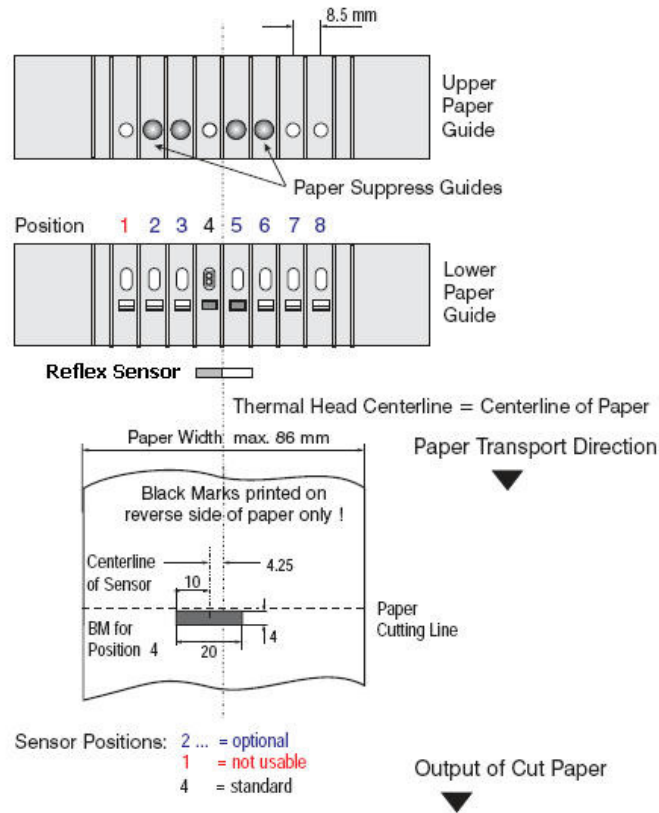

Figure 8
The Black Mark sensor (which also functions as a “paper present” sensor) on the XPM 80™ printers can be located in numerous positions during manufacturing. Figure 8 shows where the black marks should be located in order to be detected when a reflex sensor is used. The default (standard) sensor positions are so marked.
The XPM 80™ printer is designed to allow for numerous Paper Entrance/Black Mark sensor locations during manufacturing. (The location of this sensor cannot be changed once the printer is built.) Also, two different sensor types can be used. The most common is the reflex or reflective sensor, where the light source and detector are located on a single chip. Basically, the light strikes the white paper surface and reflects back into the sensor. If enough light reflects to activate the sensor, the printer reports that paper is present. If there is not enough light reflected, the printer assumes that this area is black, meaning the printer is on a black mark or the printer is out of paper. Black marks must be located on the back (non-coated) side of the thermal paper. There are seven (7) different possible positions for this sensor. The positions of these sensors are detailed in Figure 8. (Please note that sensor position 1 is not usable.) The default (standard) positions are so marked. Please note that sensor locations other than the default location are intended for OEM applications.